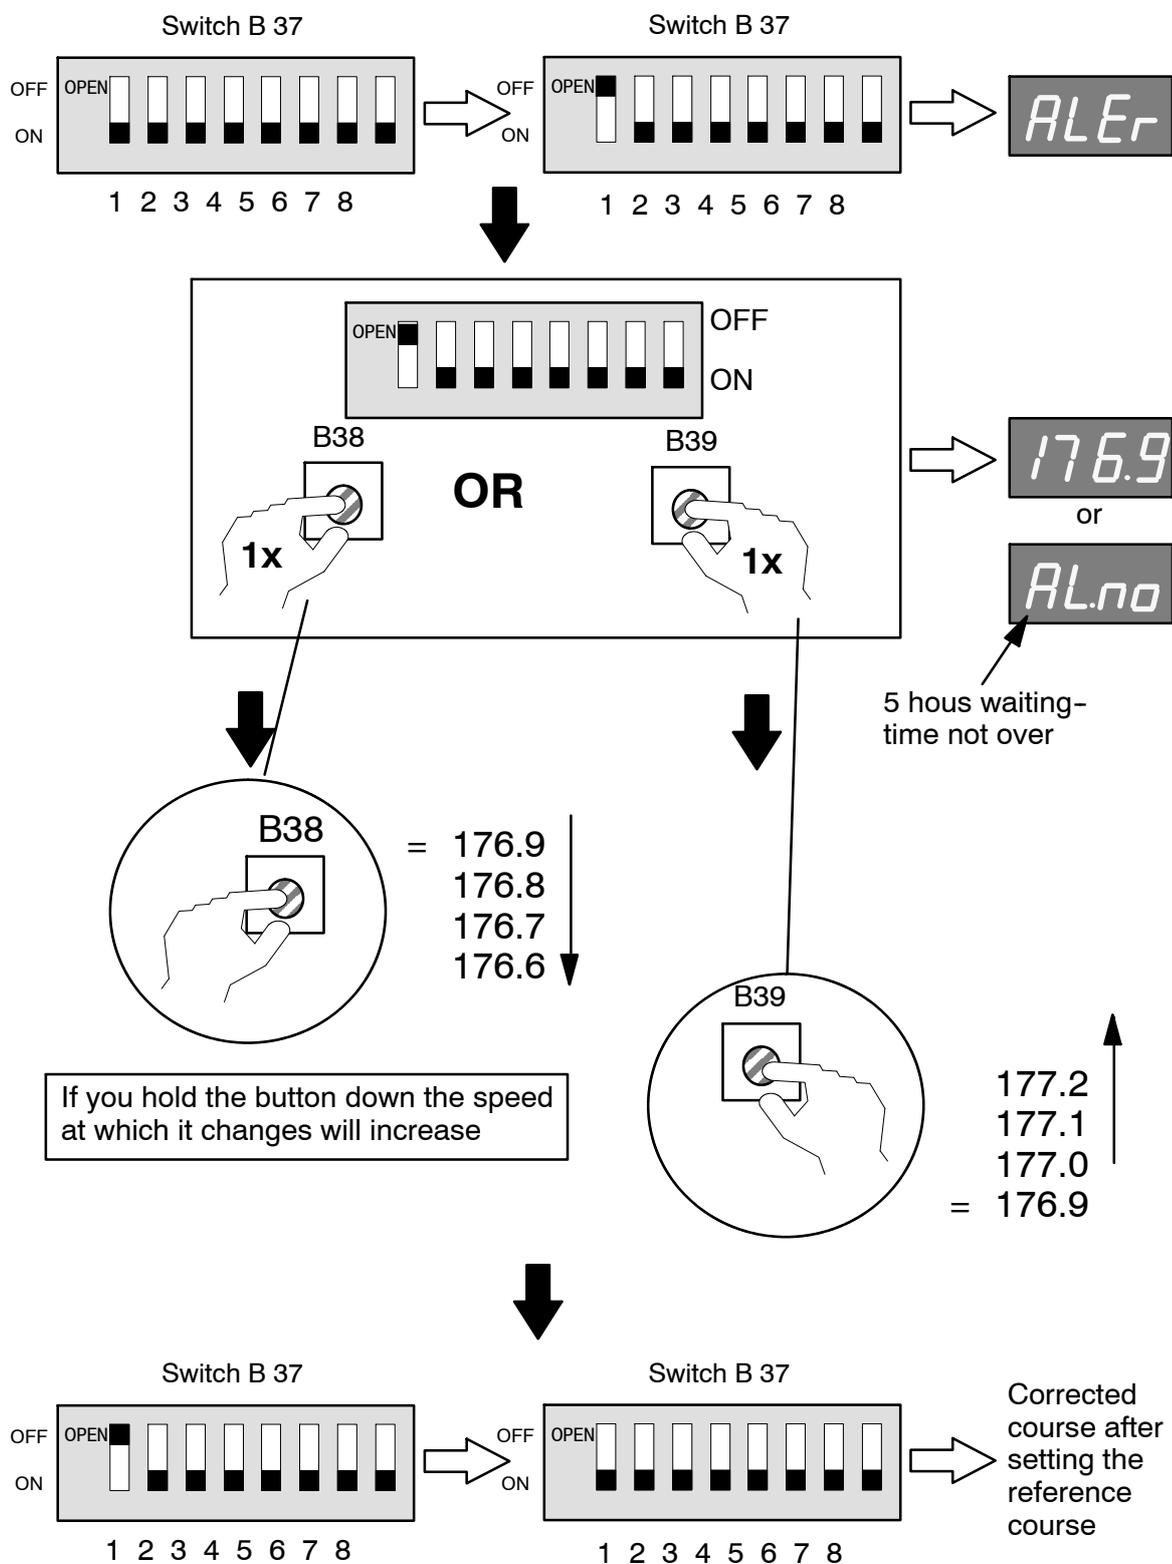

Figure 62: Procedure for setting the compass zero
- After the reference course has been set, read the alignment error (see next section) (See also Figure 62)